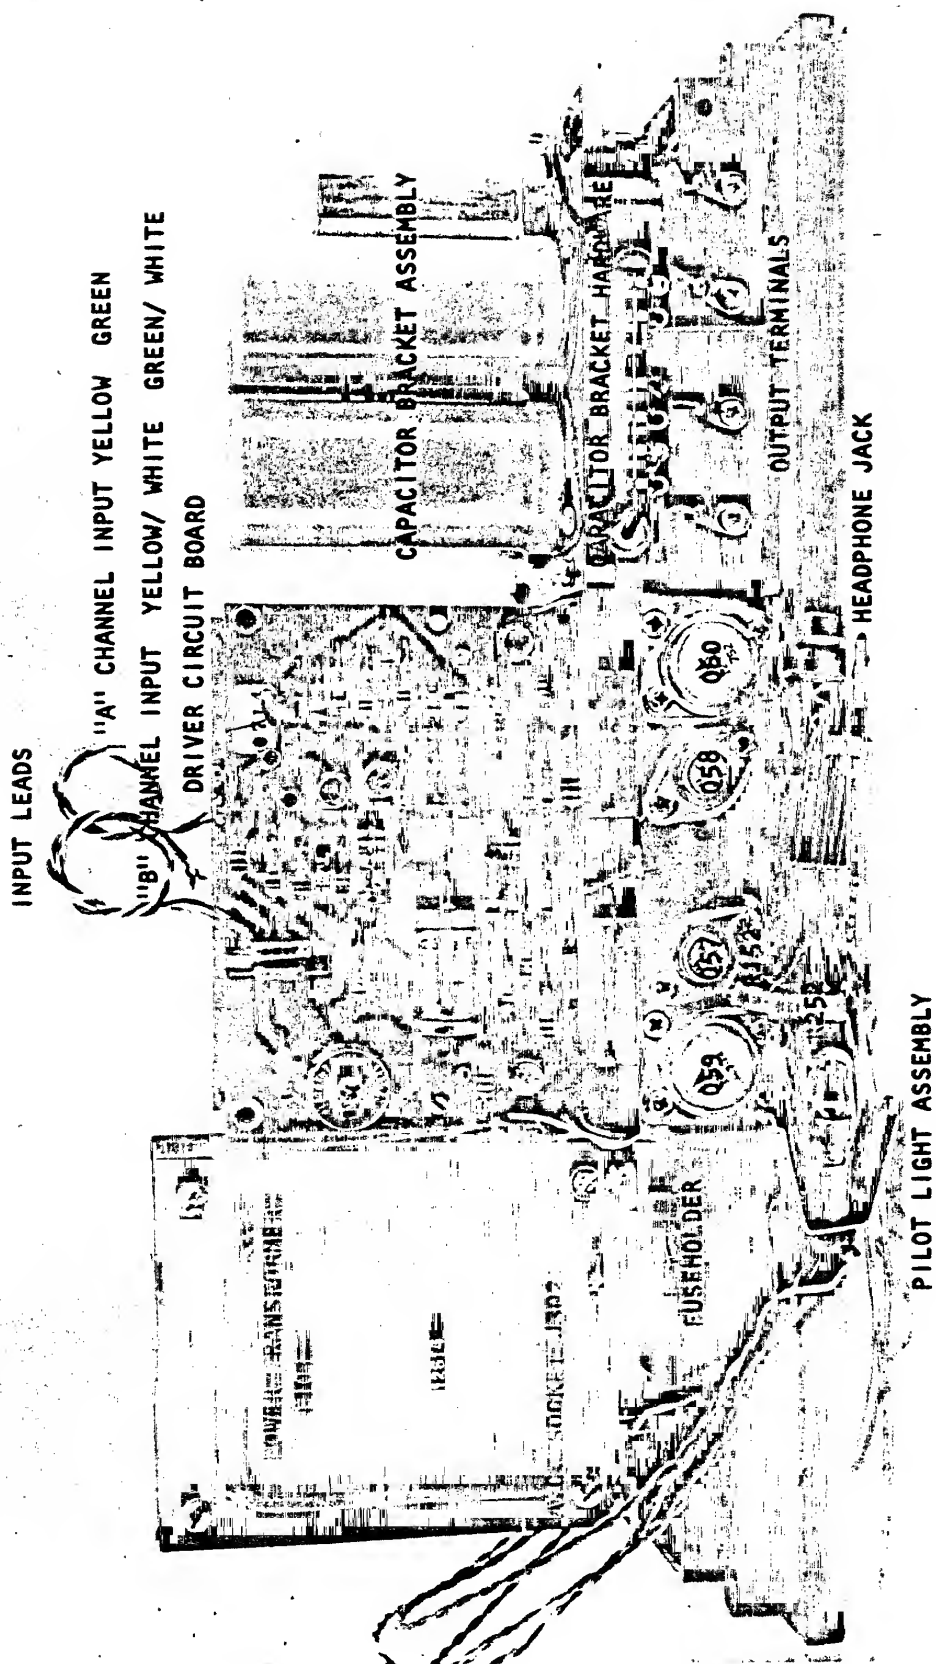

Figure 4-4 POWER AMPLIFIER
Step 9. Most of the power supply components are located on the filter/rectifier sub-chassis. To remove this sub-chassis for servicing, remove four screws which secure it to the heat sink casting (figure 4-4). A standoff bushing is used under each screw -- be sure to re-install correctly before turning on the power.